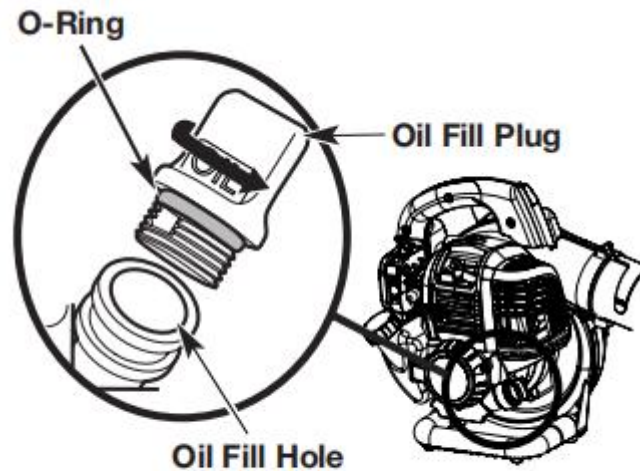

Fig. 4
- b) Unscrew the oil fill plug (Fig. 4).
- c) Pour the entire container of oil into the oil fill hole (Fig. 4).
**Note:** Make sure the O-ring is in place on the oil fill plug (Fig. 4).